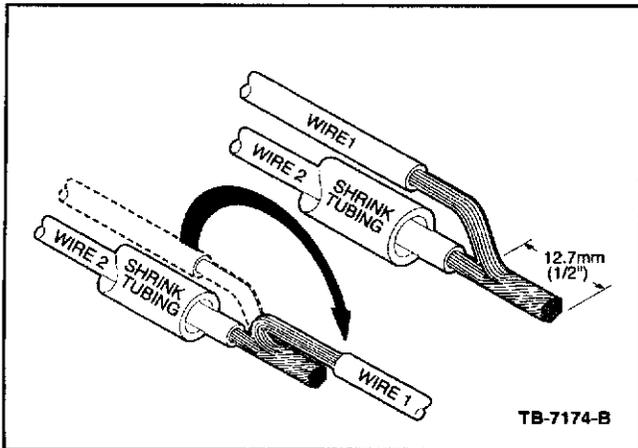

Figure 4 - Article 05-18-7
2. Install heat shrink tubing at least 1" (26 mm) away from one of the stripped ends being spliced. Twist wires together. Solder wires together (Figure 4).
3. Bend Wire #1 back in a straight line for sealing (Figure 4). Inspect solder joint bond.